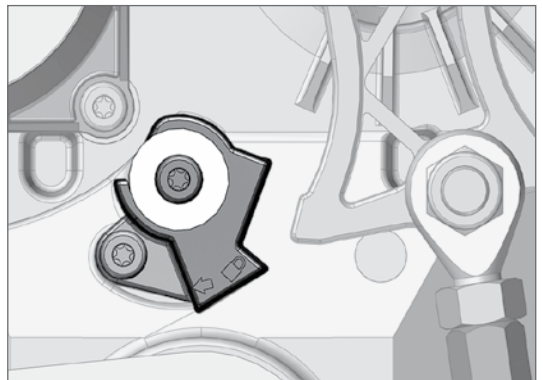

FIGURE 65. LOCK MODE POSITION (BOTTOM)
- For a right-hand boom to be placed in Lock Mode in the raised position, position the top stopper as shown in Figure 65 (similarly for the left-hand lowered locked position)